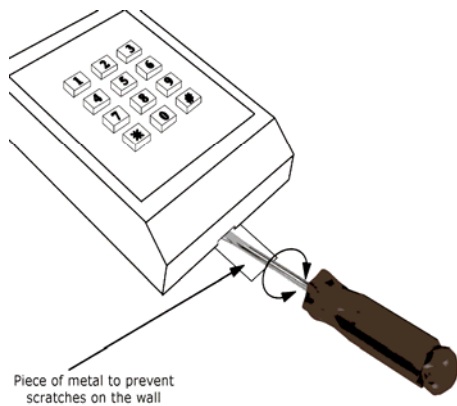

FIGURE 1: Removing the Cover
2. Remove the reader's cover by gently twisting a wide screwdriver blade in the slot at the bottom edge of the cover (see Figure 1). Do not remove the keypad assembly from the reader's base. Clip off and discard the cable's connector.